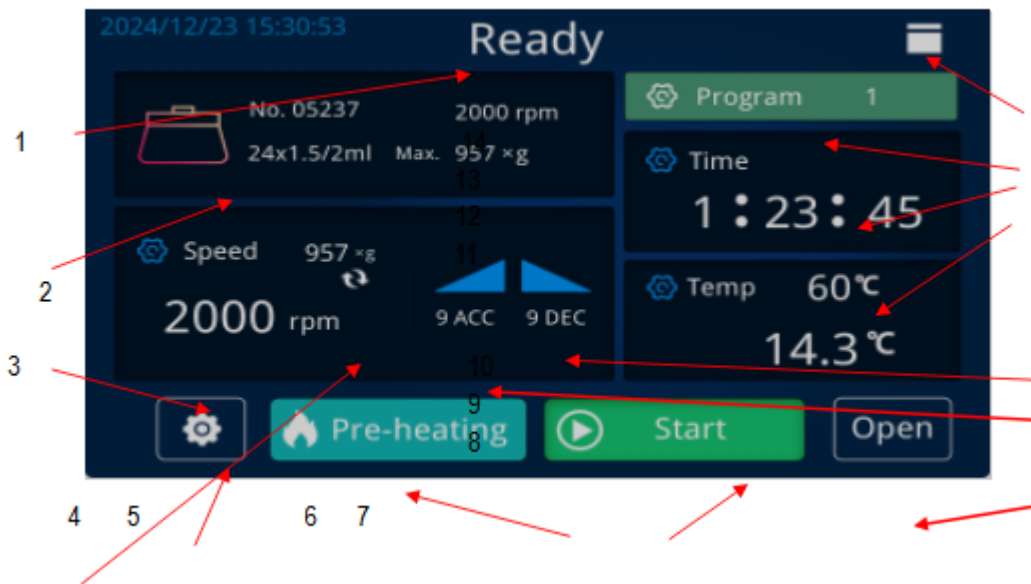

Figure 2
(1) The touch LCD screen displays the regular centrifugation parameter setting interface (see Figure 2).
Press the Speed and Centrifugal Force Toggle Button to switch between displaying the set speed and the centrifugal force. In Figure 2, the speed display is shown. Click on the speed and centrifugal force display area to open the speed setting window (see Figure 4). Enter the desired speed parameter value and press the return arrow to exit the numeric keypad window. The entered value will be set as the speed parameter. Press "Esc" to directly exit without saving any input values. The entered value must be within the valid range; otherwise, the input will be invalid. The corresponding centrifugal force value will automatically adjust based on the speed parameter.